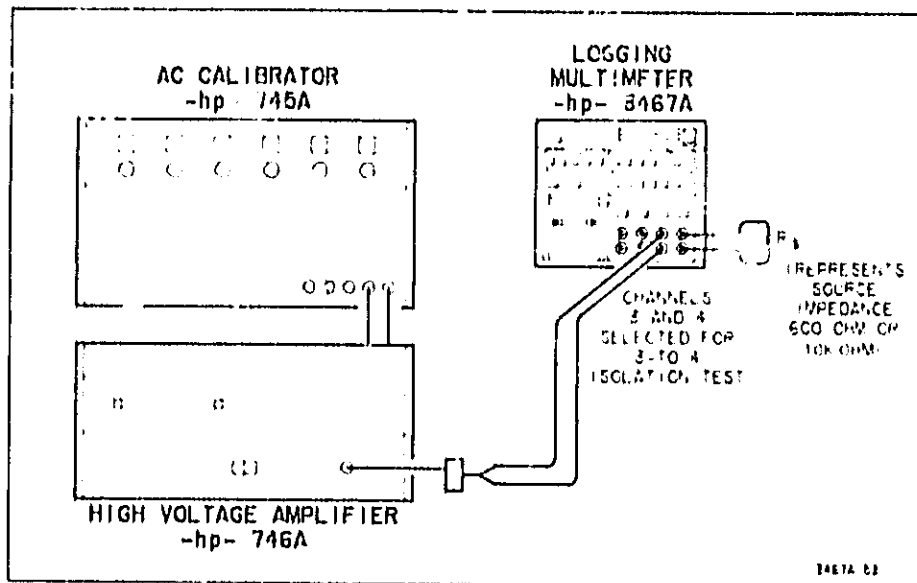

Figure 5-7. Scanner Isolation Test.
a. Set the Logging Multimeter to the ACV function, autorange. Connect the AC Calibrator to Channel 3 and the 600  $\Omega$  load to Channel 4 as shown in Figure 5-7 and select Channels 3 and 4.